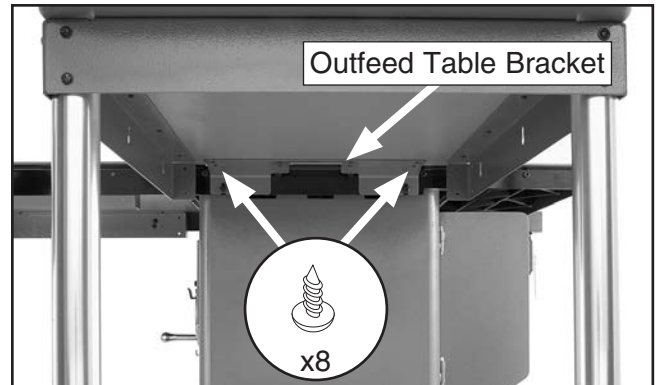

Figure 23. Outfeed table fastened to rear rail.
15. Attach front outfeed table bracket to outfeed table with (8) M4 x 16 tap screws (see Figure 23), and then repeat **Steps 8-11** to install the feet, support legs, and shelf end plate on the outfeed table.